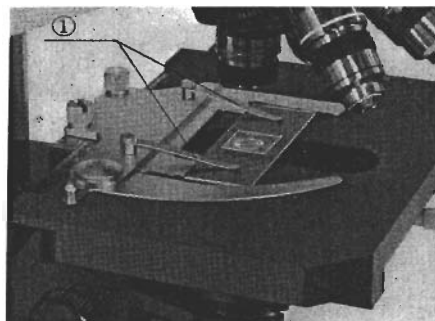

Fig. 10
- ◎ Stage clips ①, for use with immersion objectives. (Fig. 10)